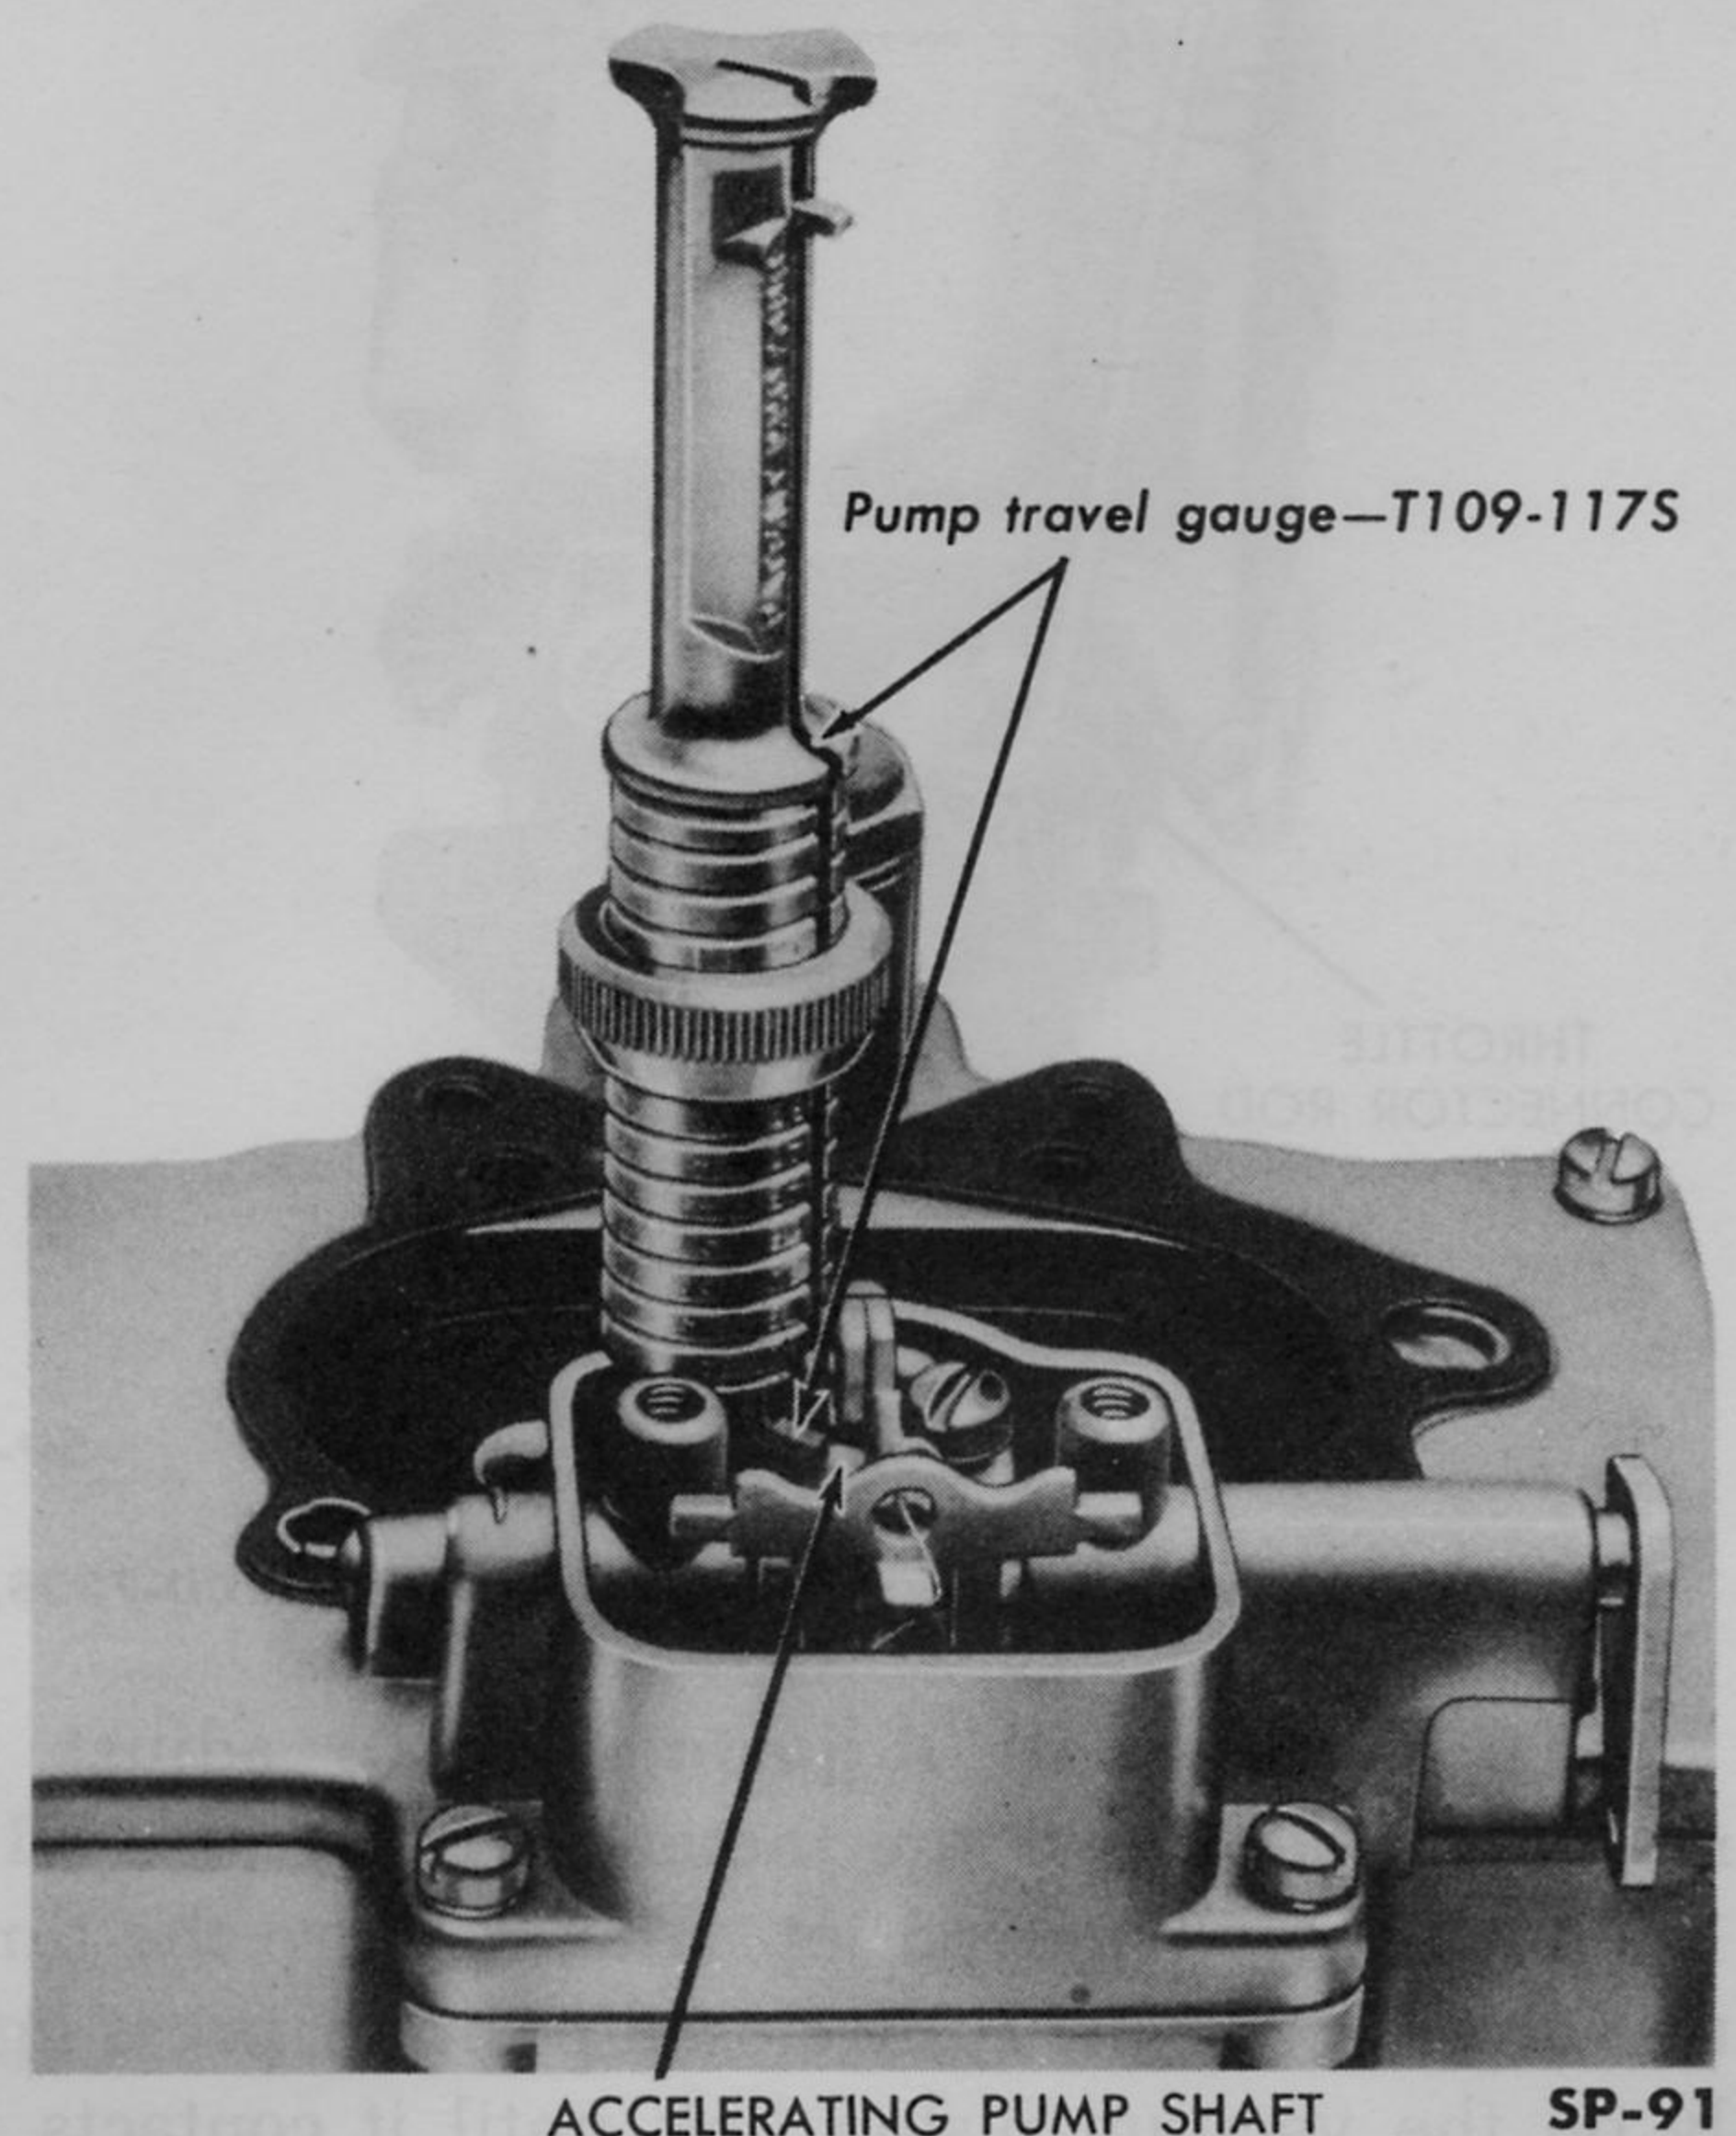

Fig. 138—Checking Accelerating Pump Travel (WCD-723S)
1. Accelerator Pump Adjustment. The accelerating pump link **must** be connected to the lower hole (short stroke) while adjusting the pump. Back out the idle speed adjusting screw until the throttle valves are in the fully closed position. Place the base of the pump travel gauge on the edge of the dust cover boss (Fig. 138), making sure the throttle valves are in the fully closed position.